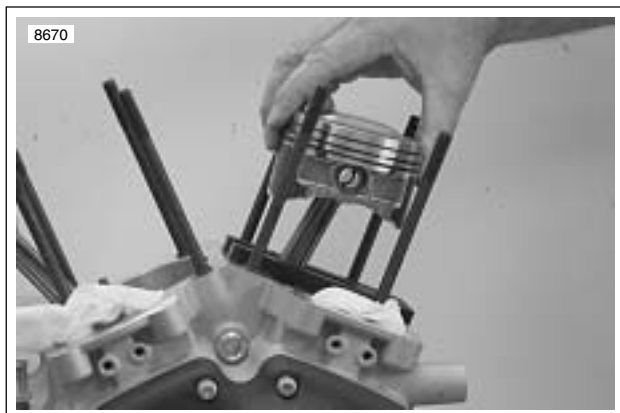

Figure 3-104. Piston Support Plate (Part No. HD-42322)
1. See Figure 3-104. Place PISTON SUPPORT PLATE (Part No. HD-42322) in position as shown.